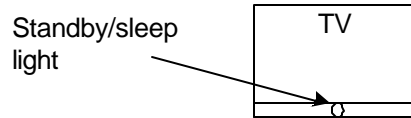

Figure 6-1
1. The TV must be in the Standby Mode as indicated by the front panel red light. Refer to Figure 6-1 for the location of the standby light. If this Standby light is OFF, plug the TV into AC, press the front panel Power button and then shut off the TV from the remote control. The Standby light should now be lit (red) while the TV is OFF.